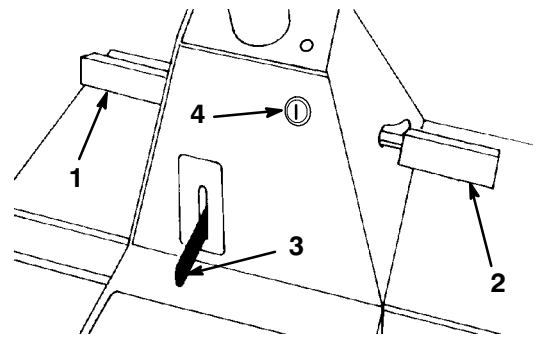

Figure 9
The clutch pedal (Fig. 9) is used in conjunction with the gear shift. Depress the clutch pedal fully when shifting gears and whenever the brake is used.
The brake pedal (Fig. 9) must be depressed to slow down or stop the tractor. When the pedal is depressed, a caliper engages the brake disc at the side of the transaxle. Remember to depress the clutch pedal when using the brake.
The parking brake (Fig. 9) must be used in conjunction with the brake pedal. When the pedal is depressed, the end of the parking brake lever holds the brake pedal in the depressed position and a caliper engages the brake disc at the side of the transaxle.
2. Move the parking brake control (Fig. 9) upward and release the brake pedal.
The ignition switch (Fig. 9) has three positions: Off, Run, and Start. The key automatically returns to the Run position from the Start position when it is released after the engine starts.